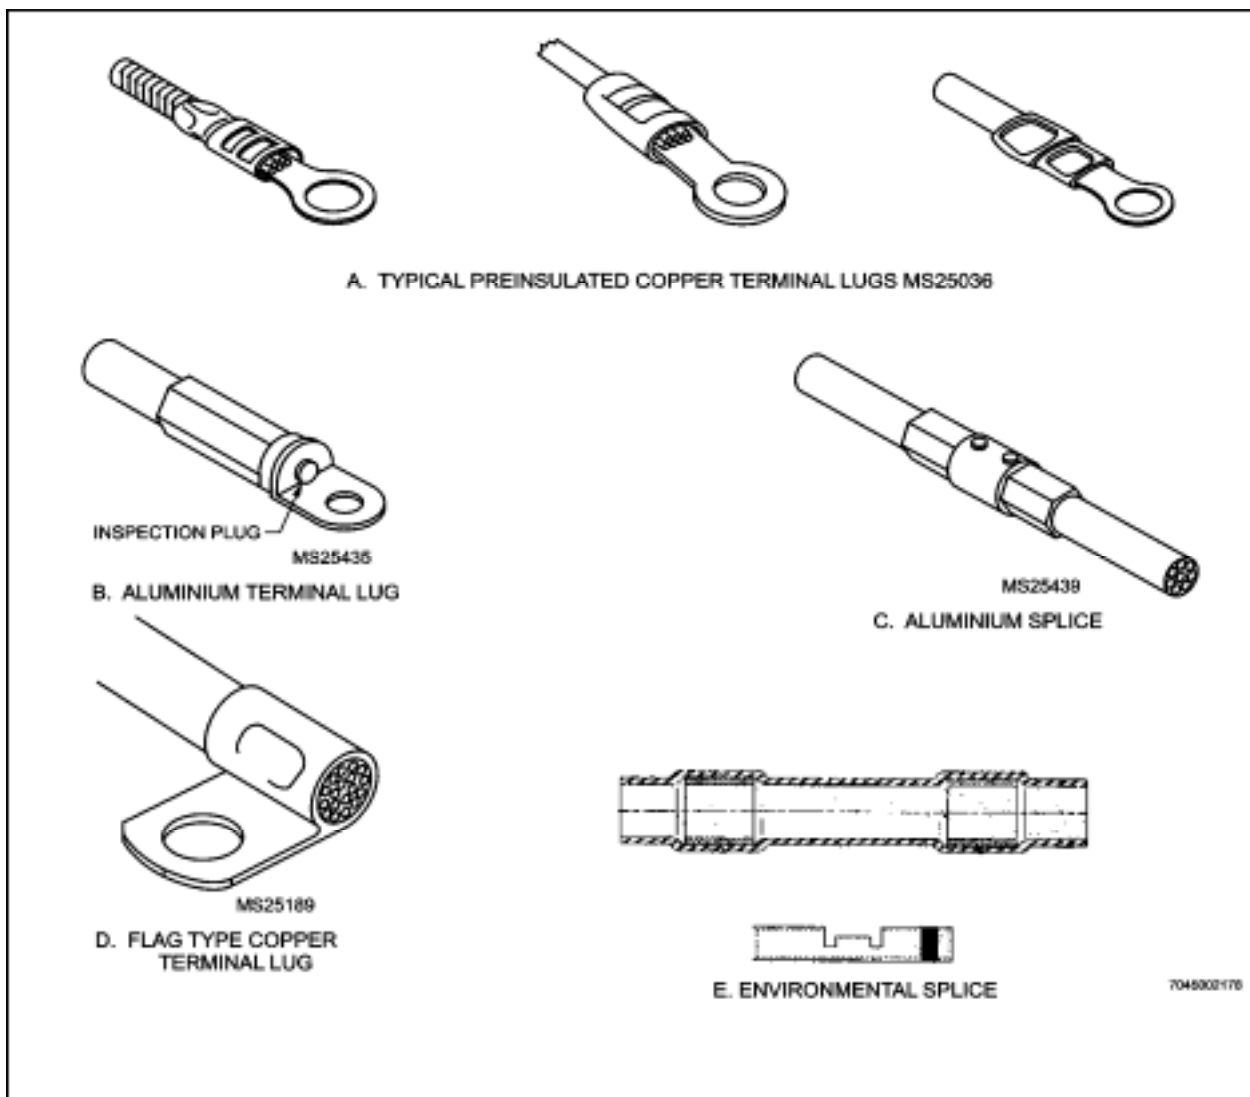

Figure 6-1 Solderless Terminal Lugs and Splices
5. Terminal lugs are available in four styles: straight, 90 degree upright, angle, and flag, for use under different applications. Figure 6-1 shows typical terminal lugs and splices. Terminal lugs and splices are crimped to wires by means of hand or power crimping tools. Power tools may be portable or stationary (bench-mounted). Typical crimping tools are illustrated where they are mentioned in the procedures. Environmental sealed splices (MIL-S-81824) are the only permanent splices that should be used on aircraft. Potted non-environmental splices may be used as a temporary/emergency repair and shall be replaced as soon as practicable.